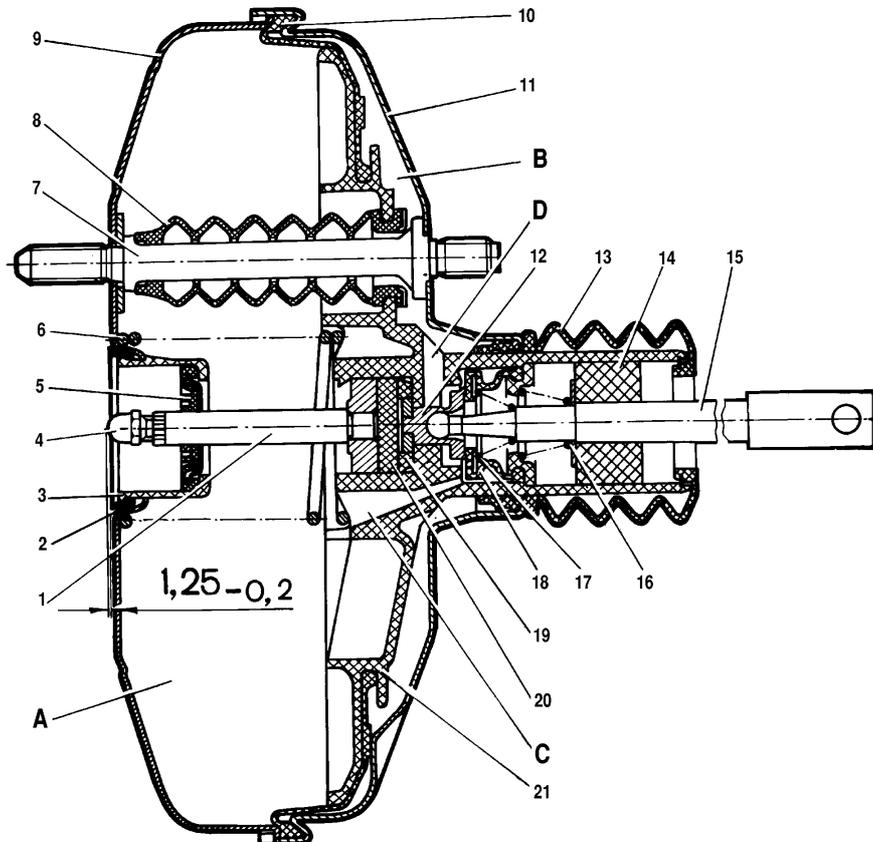

Fig. 6-2. Brake servo unit:
2. Projection of servo unit adjusting bolt in relation to fastening surface of master cylinder exceeds 1.25 ^{±0.2} mm	2. Adjust bolt position (see fig. 6-2)
Press the brake pedal 5-6 times with the engine not working to create in cavities A and B (fig. 6-2) identical pressure close to atmospheric. Simultaneously, by effort applied to the pedal, define, whether the valve housing 21 is jammed.
If the stoplight switch is too close to the pedal, it does not come back to the initial position, valve 18 (see fig. 6-2), being pressed to housing 21, separates cavities A and B, and it results in incomplete release of wheels when the pedal is let off.
If the adjustment of the stoplight switch fails to remedy the brake mechanism, disconnect the master cylinder from the servo unit and check the protrusion of the adjusting bolt 4 (see fig. 6-2) in relation to the fastening plane of the master cylinder flange (size $1.25^{+0.2}$). This size can be established by holding with a special key the end of rod 3, and with the other key screwing in or undoing bolt 28.